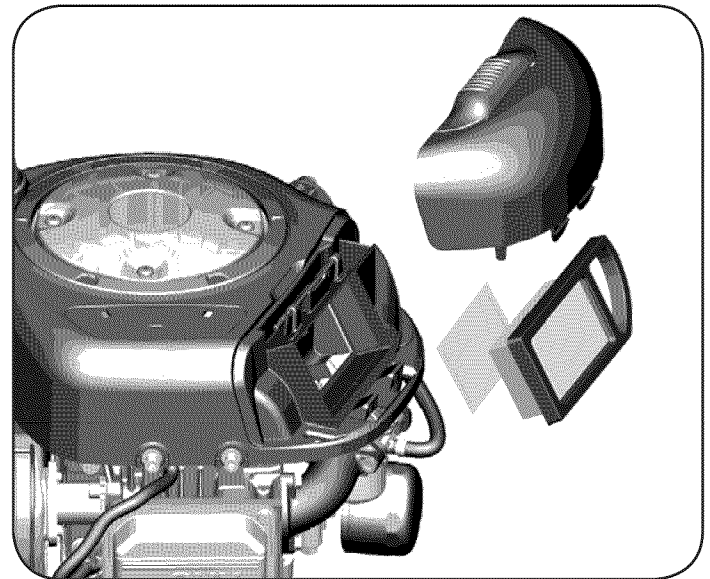

Figure 11
2. To remove the air filter, lift the end of the filter. See Figure 11.